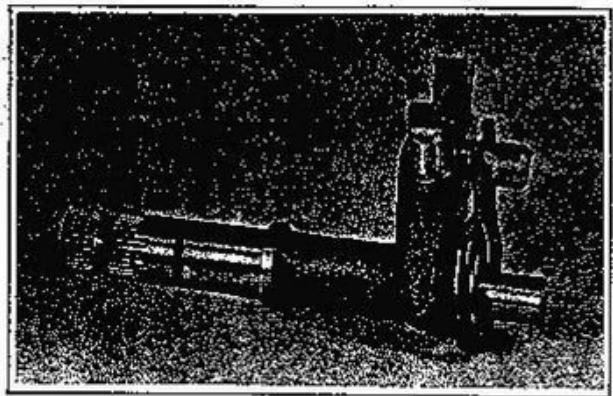

Figure 3D-42. Positioning Shifter Pawl Carrier Return Spring
Insert springs (6) into pawls (5) and install pawls (5) into carrier (9 or 9A). Position pawls so that flat cutouts are facing each other. Depress pawls and install spring retainer plate (4 or 4A). Press in stop pins (7) so that flats or flat on stop is parallel with retainer plate (4 or 4A). Position return spring (2) on shifter carrier with offset of spring toward crankcase and with stop pin (7) between arms of spring as shown in Figure 3D-42.
Position rubber "O" ring (8) on carrier shaft. Place carrier assembly into case and engage return spring on return spring pin as shown in Figure 3D-43. Make sure spring is engaged (shaft should not turn).